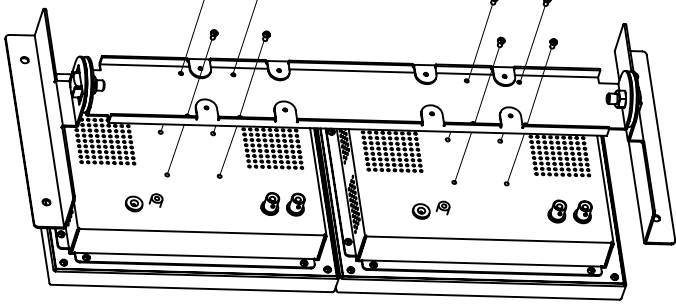

FIG. 5
4. Assemble Back Bar with two monitors, use M3 pan head screw "E", 8 pieces, see Fig.5